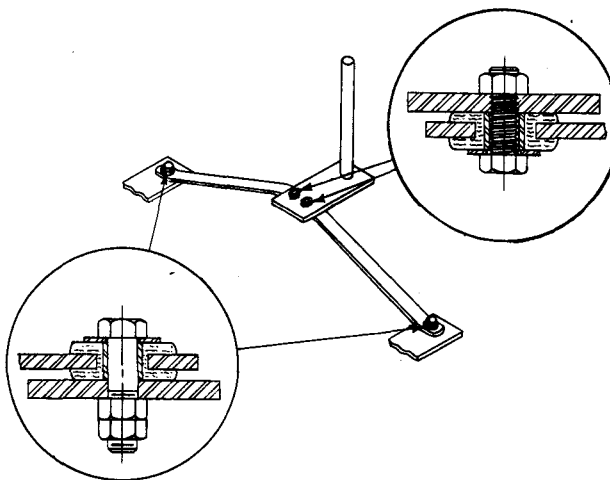

FIGURE 13
Play in steering may come from wheel being loose on shaft, gears not being tightly in mesh or rubber bushings (Fig. 13) being worn. Tightening and replacing will take care of first and last, while mesh of gears can be tightened by shifting pinion gear up along steering shaft or by shimmying up under Pitman housing.
6. Four neoprene bushings in steering tie rods. Two are up in behind center of axle and hard to get at. Other pair are just inside front wheels and easily accessible. (See Fig. 13)